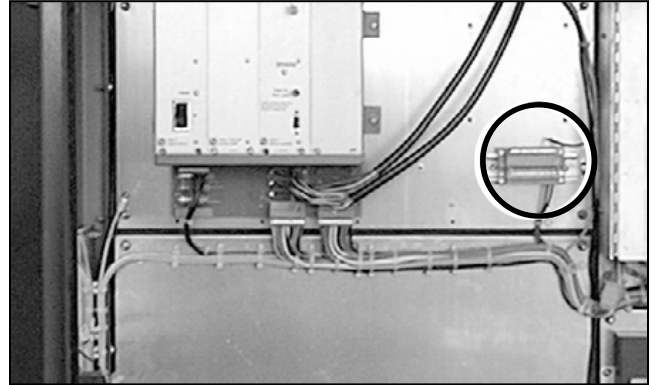

Figure 93. Attaching the ground wires to the terminal block.
- (f) Up to three pairs of ground wires, VS-G1 and VS-G2, are included. See the wiring diagram for details. Attach the ground wires to the terminal block specified in the drawings provided, and fully tighten the set screws. See Figure 93.